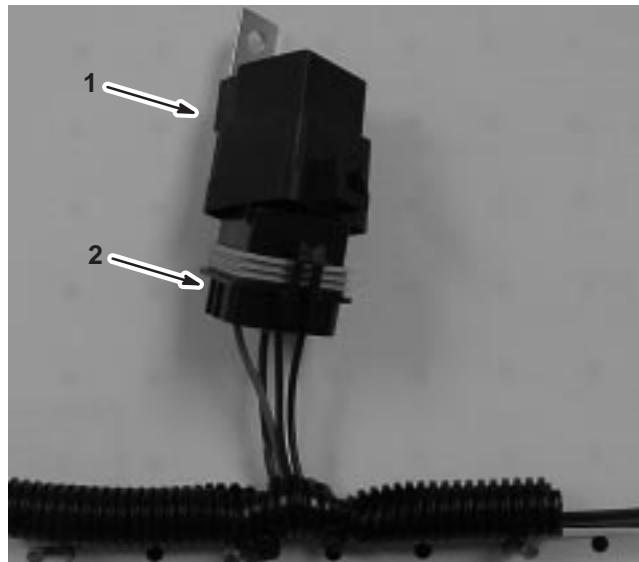

Figure 16
7. Unplug the relay connector from the relay (Fig. 16).